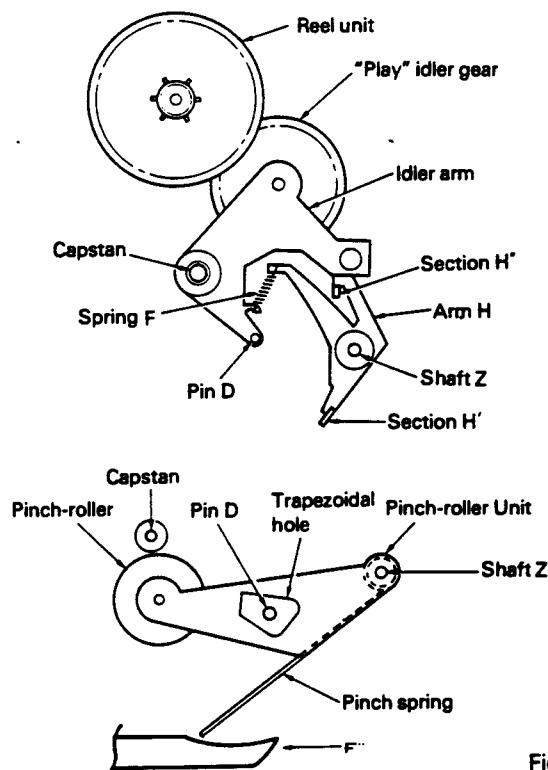

Fig. 17
5. After the head base goes beyond the MS pattern (Fig. 16-④) position, the arm "F", "F'' part pushes the pinch roller unit pinch spring and presses the pinch roller down onto the capstan. (Fig. 17)
6. Simultaneously, the arm "F", "F'' unit pushes the arm "H", "H'' part. The "H'' part lock releases when pushed, and the play idler gear comes into contact with the reel unit. Play operation begins because of this. (Fig. 16-⑤, Fig. 17)